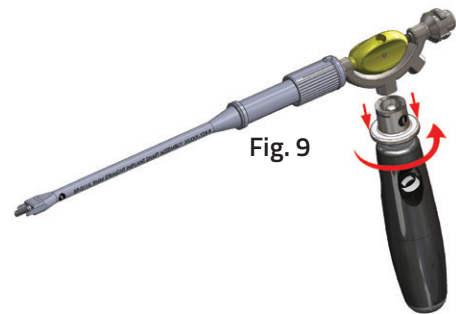

Fig. 9
- a) Hold the metal top plunger like a syringe with your fingers on the sides. **(Fig. 9)**